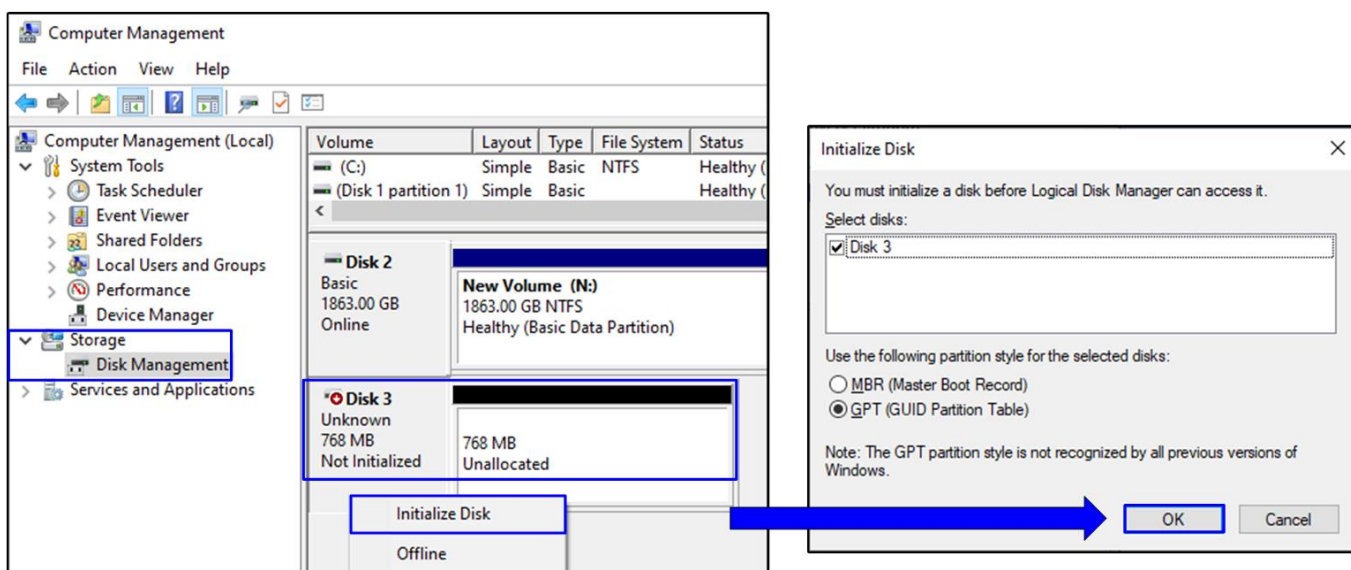

Figure 3-2 Initialize Disk
2. Generally, the pop-up menu to initialize disk is displayed. Click “OK” button to confirm new disk initialization, as shown in the right window of Figure 3-2.
Note: If no pop-up menu is displayed, select Computer Management -> Disk Management. The new disk which is unallocated is displayed. Select the new disk and select Initialize Disk menu, as shown in the left window of Figure 3-2. If new disk which is unallocated is not displayed, please close and re-open Disk Management.